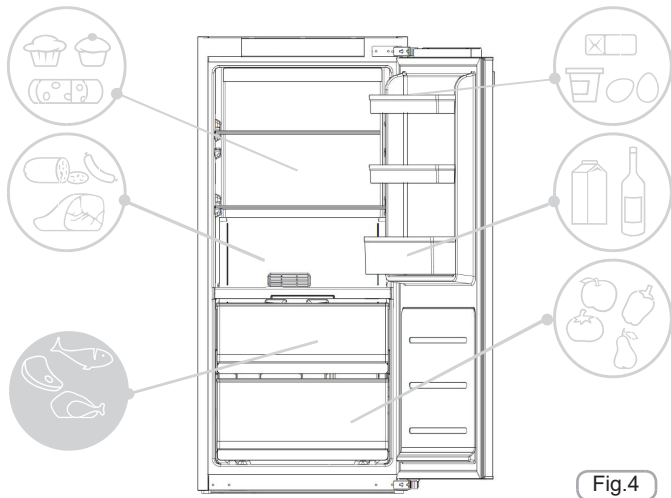

Fig.4
• To maintain the best flavour, nourishment and freshness of foods, it is advisable to store them in the refrigerator compartment as shown in Fig. 4 below, making sure to wrap them in aluminium or plastic sheets or in appropriate covered containers to avoid cross-contamination.